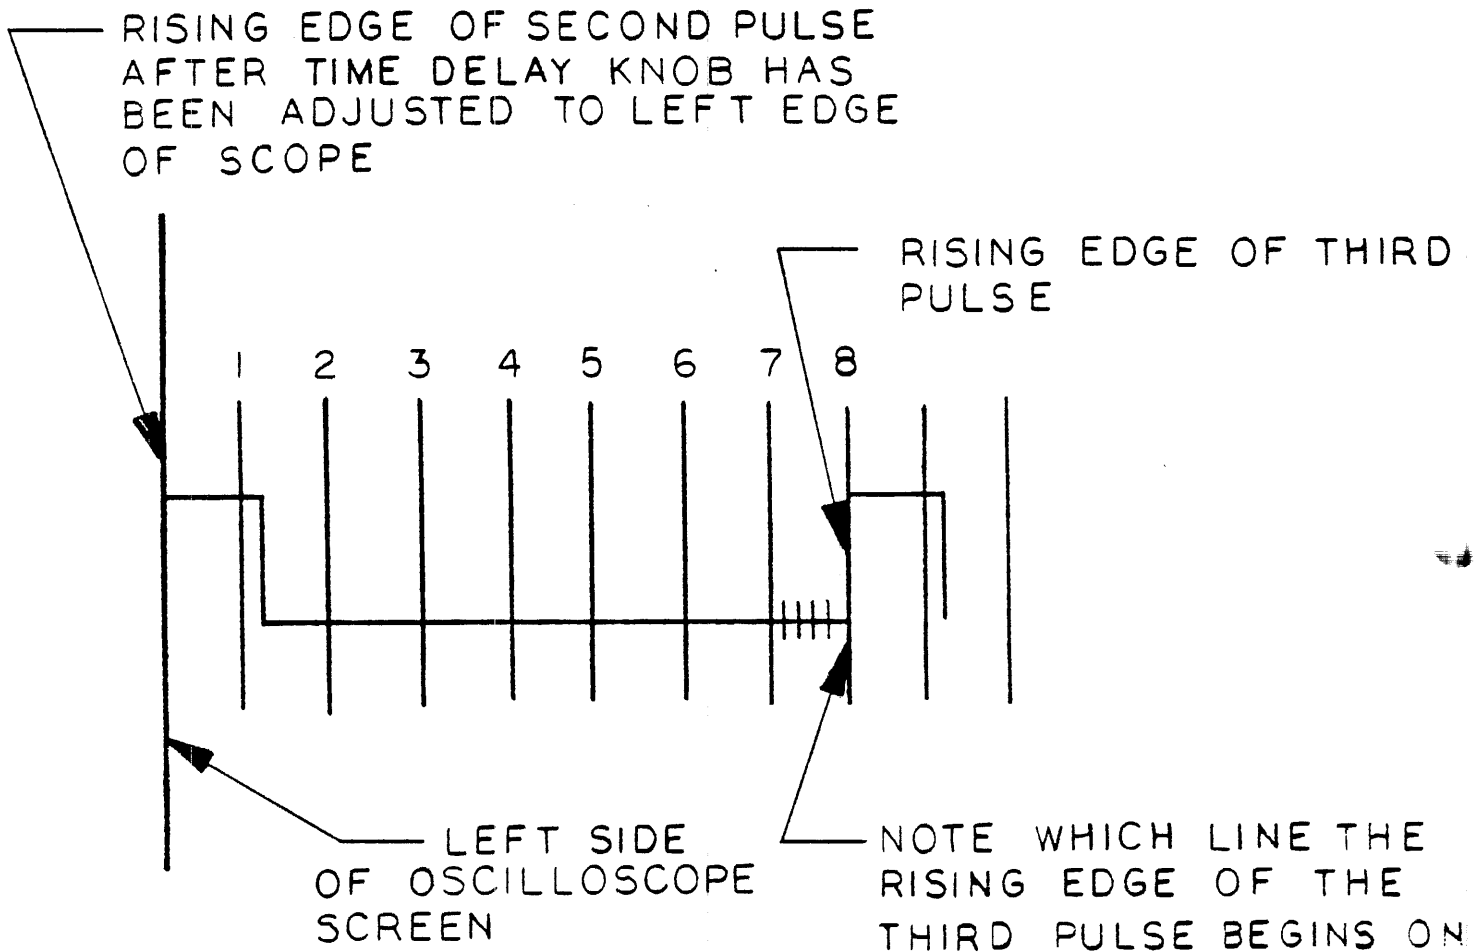

FIGURE 4. THE RISING EDGE OF THE SECOND PULSE
- 7.3.8 Note which line the rising edge of the third pulse begins on. (See Fig. 4.)